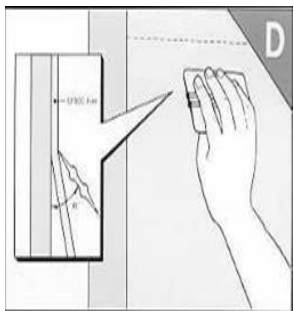

Figure 3.
7. Continue in this manner to apply the rest of the Product. See Figure 3.